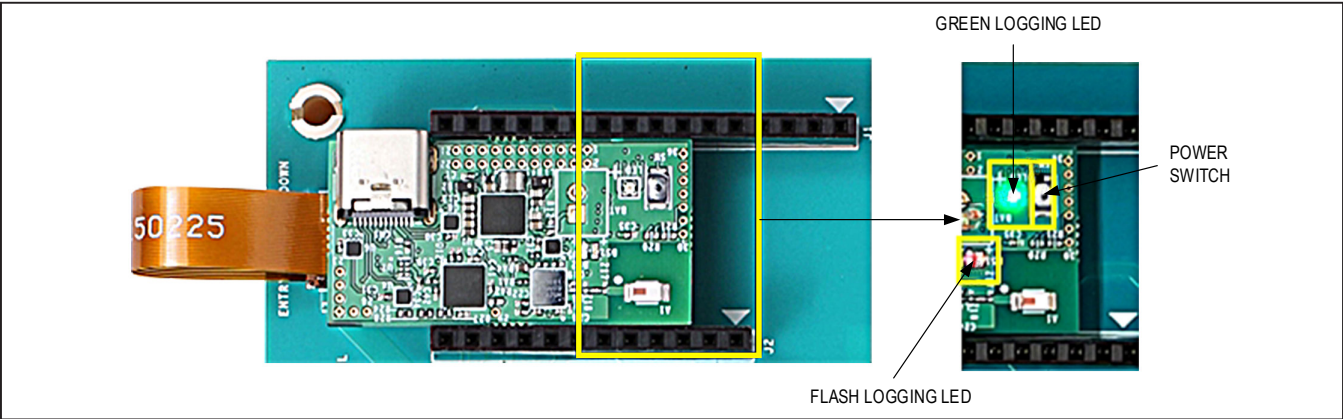

Figure 16. Location of Power Switch, Status LED and Flash Logging LED
The following tri-color LEDs on the MAXSENSORBLE_EVKIT_B are used as status indicators. See Figure 16.
To turn on the EV kit, press and hold the power switch (SW) for 1 second until the green LED starts flashing. See Figure 16. When powered on, the green status indicator LED will toggle as described in the Status LED Indicators section of this datasheet. To turn off the EV kit, press and hold the power switch for 3 seconds until the green LED stops flashing. When powered off, the green status indicator LED will go out. The red status indicator LED may light temporarily, indicating that the flash log is closing. Plugging in the USB-C to USB-A cable will also power up the EV kit. If the EV kit does not turn off after a 3-second hold, press and hold the power switch for 12 seconds to perform a forced shutdown.